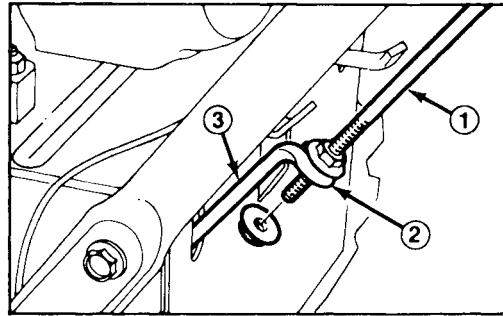

Figure 3
2. Insert traction rod through loop in lower traction rod (Fig. 3).
bottom of traction control rod to loop in lower traction rod (Fig. 3).
6. Adjust flange nuts on traction rod (Fig. 3) until dimension is attained.